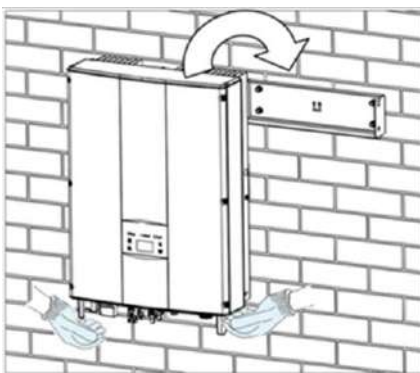

Figure 4.10 Installation of inverter
- (5) Hang the inverter onto the installation bracket and ensure the installation is firm enough. As shown in Figure 4.10.